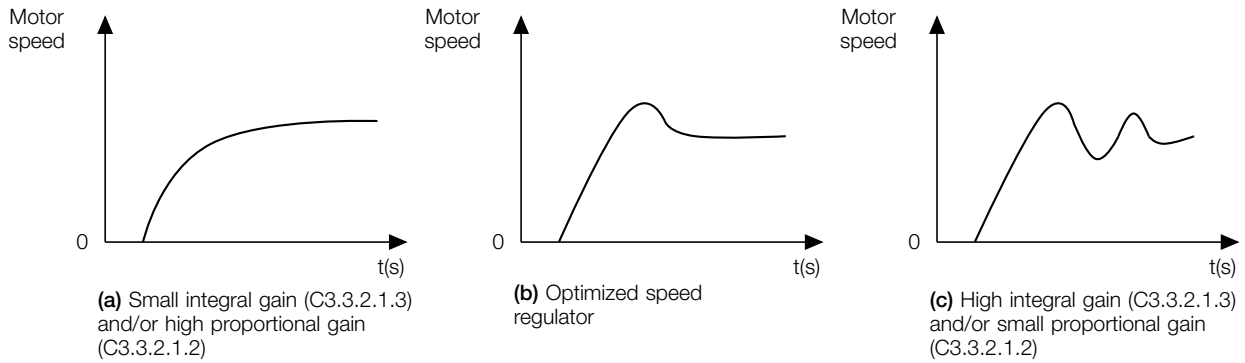

Figure 11.9: (a), (b) and (c) - Types of speed regulator response
6. Check among the options in Figure 11.9 which waveform best represents the signal read.
7. Set C3.3.2.1.2 and C3.3.2.1.3 according to the type of response shown in Figure 11.9.